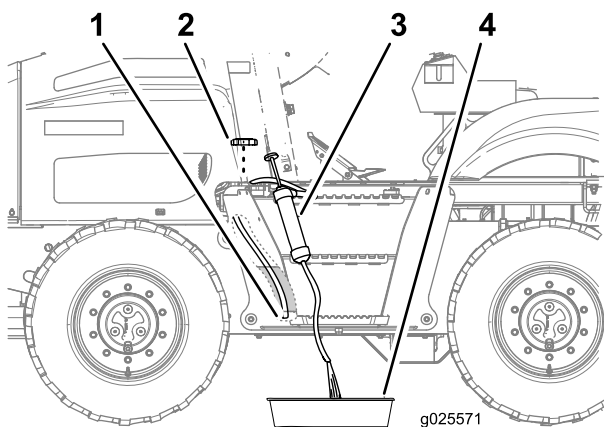

Figure 77
1. Remove the fuel cap from the fuel tank (Figure 77).
2. Route the intake hose of the siphoning equipment through the filler neck of the fuel tank and to the bottom of the tank (Figure 77).
3. Direct the discharge hose of the siphoning equipment into a drain pan (Figure 77).
6. Install the fuel cap onto the filler neck of the fuel tank (Figure 77).